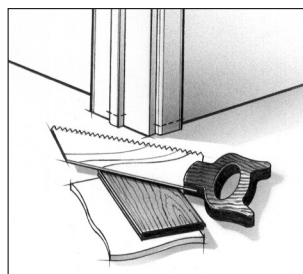

Fig. 2
2. Door trims and doorjamb must be undercut to allow the floor to move freely. Use a discarded piece of floor and foam underlayment to support the saw blade at the correct height for undercutting (Fig.2).